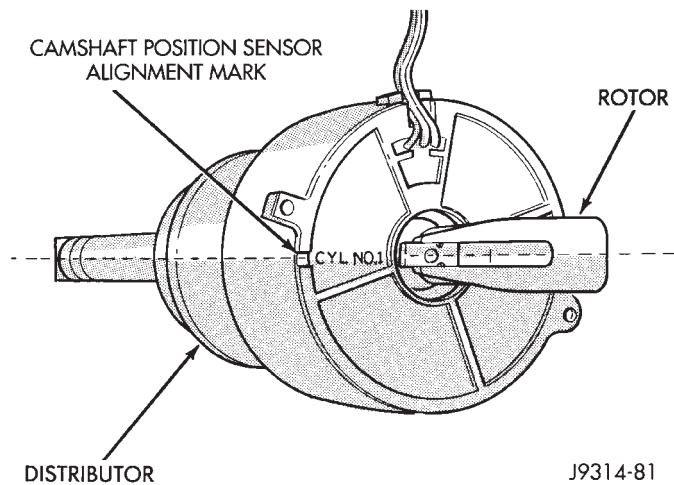

Fig. 21 Rotor Alignment Mark—5.2L Engine
camshaft position sensor (Fig. 21). If not, rotate the crankshaft through another complete 360 degree turn. Note the position of the number one cylinder spark plug cable (on the cap) in relation to rotor. Rotor should now be aligned to this position.
(1) Clean top of cylinder block for a good seal between distributor base and block.
(2) Lightly oil the rubber O-ring seal on the distributor housing.
(3) Install rotor to distributor shaft.
(4) Position distributor into engine to its original position. Engage tongue of distributor shaft with slot in distributor oil pump drive gear. Position rotor to the number one spark plug cable position.
(5) Install distributor holddown clamp and clamp bolt. Do not tighten bolt at this time.
(6) Rotate the distributor housing until rotor is aligned to CYL. NO. 1 alignment mark on the camshaft position sensor (Fig. 21).